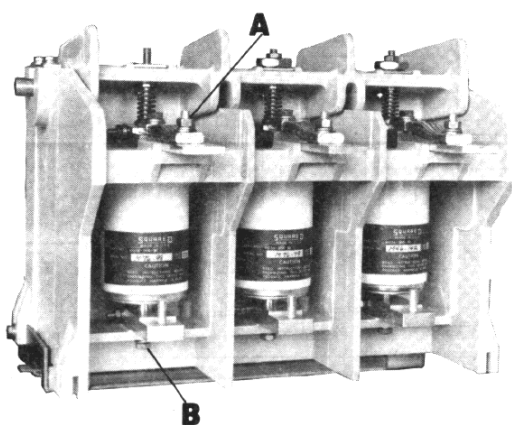

FIGURE 12
- 4) Install bolt and washer (A) connecting shunt to line bus (See Figure 12).
- 5) Install bolt (B) into bottom of bottle assembly (See Figure 12).